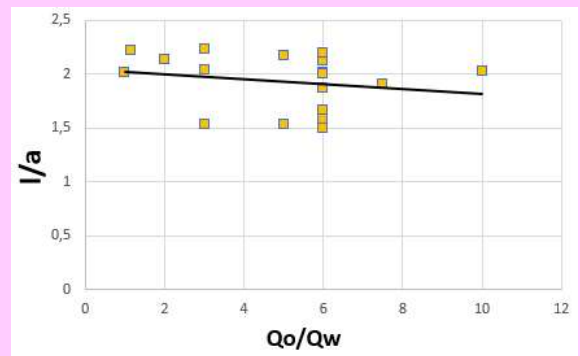

Figure 3: Dimensionless drop length  $l/a$  versus flow rate ratio  $Q_w/Q_o$
- The ratio between the length and this width varies between 1,5 and 2,5 in figure 3, thus the control of the size of the droplet can be done by changing the width of the droplet generation channel. This gives an approximate size for the droplet, and the final size adjustment is done by slightly adjusting the water flow rate for the experiment.